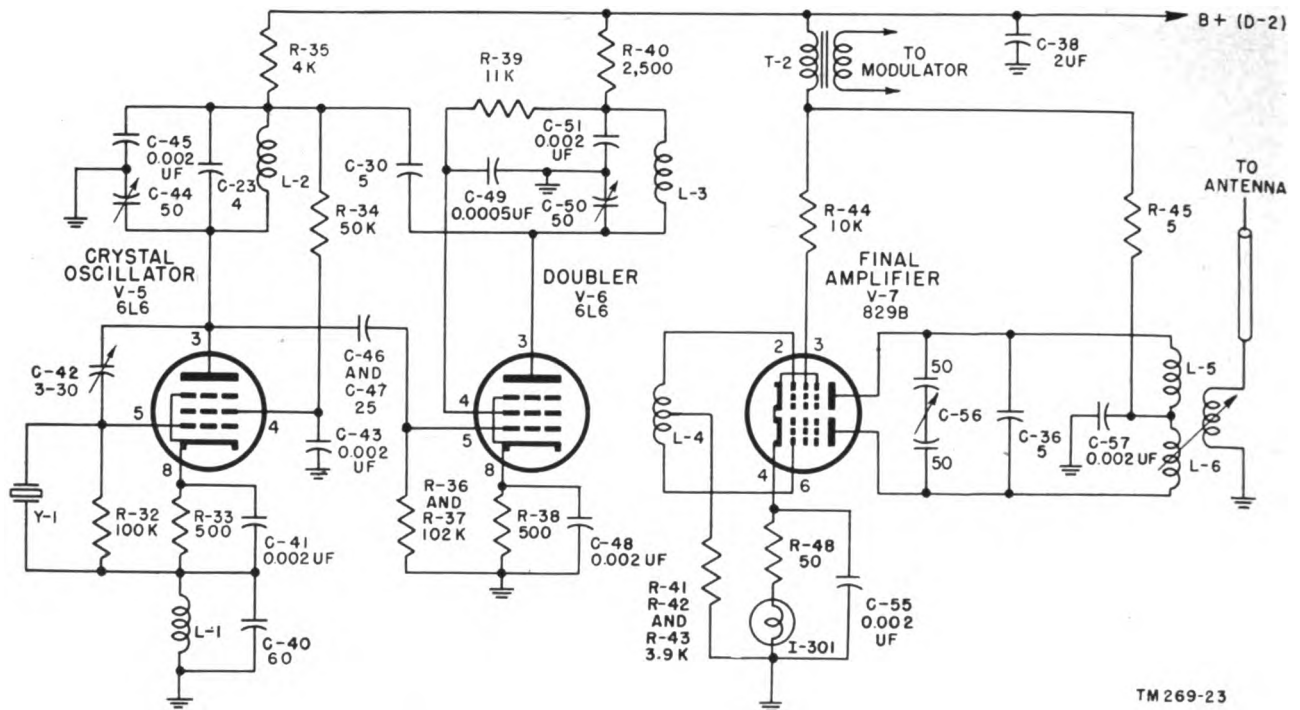

Figure 24. Transmitter, r-f section, channel 1, schematic diagram.
51. R-f Section (fig. 24)
usual advantage of a crystal oscillator by providing frequency stability. The following discussion is based on channel 1 (fig. 24) and applies to channels 2 and 3, except for capacitor and resistor circuit values.
stage V-6 (fig. 24) is tuned to twice the input frequency. Since the input to V-6 is already three times the fundamental crystal frequency, the output of V-6 will be six times the crystal frequency. This applies to channels 1, 2, and 3. For channels 4, 5, and 6, the output of V-6 will be four times the crystal frequency.